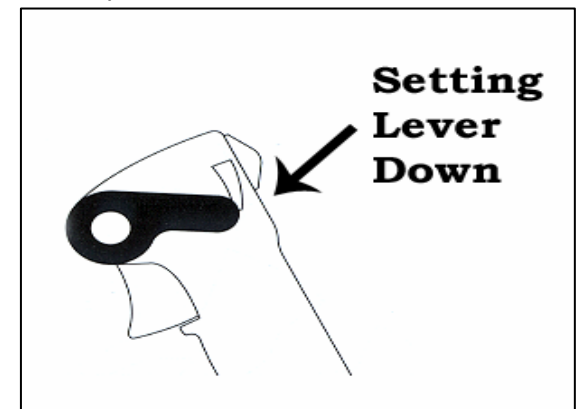

Fig. 34. Setting lever "down" to idle speed.
- ☐ 10. Move the setting lever ((Fig. 34) downwards to its lower position so that the engine settles down to idle speed.